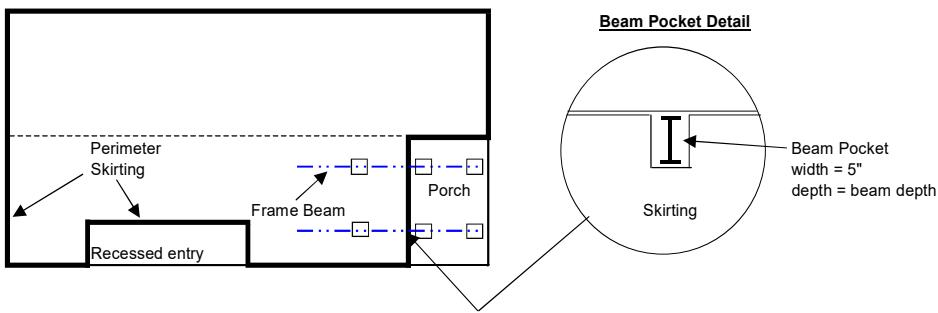

Figure 96. Perimeter skirting at recessed entries, porches, and decks
1. **Configure skirting.** Run the skirting along the perimeter of the home's heated, conditioned space (**Figure 96**). Do not enclose with skirting areas under recessed entries, porches, or decks (whether constructed as part of the home or added on site) unless following the provisions in item 6 of this step.
- Provide typical skirting separation from main home crawlspace area (fig 96)